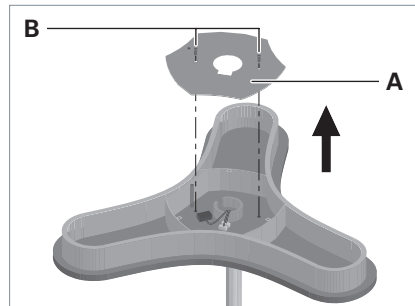

Fig. 15: Dismounting the cover from the light head.
- ▶ Unscrew the screws **B** from the cover **A** and remove the cover, see Fig. 15.